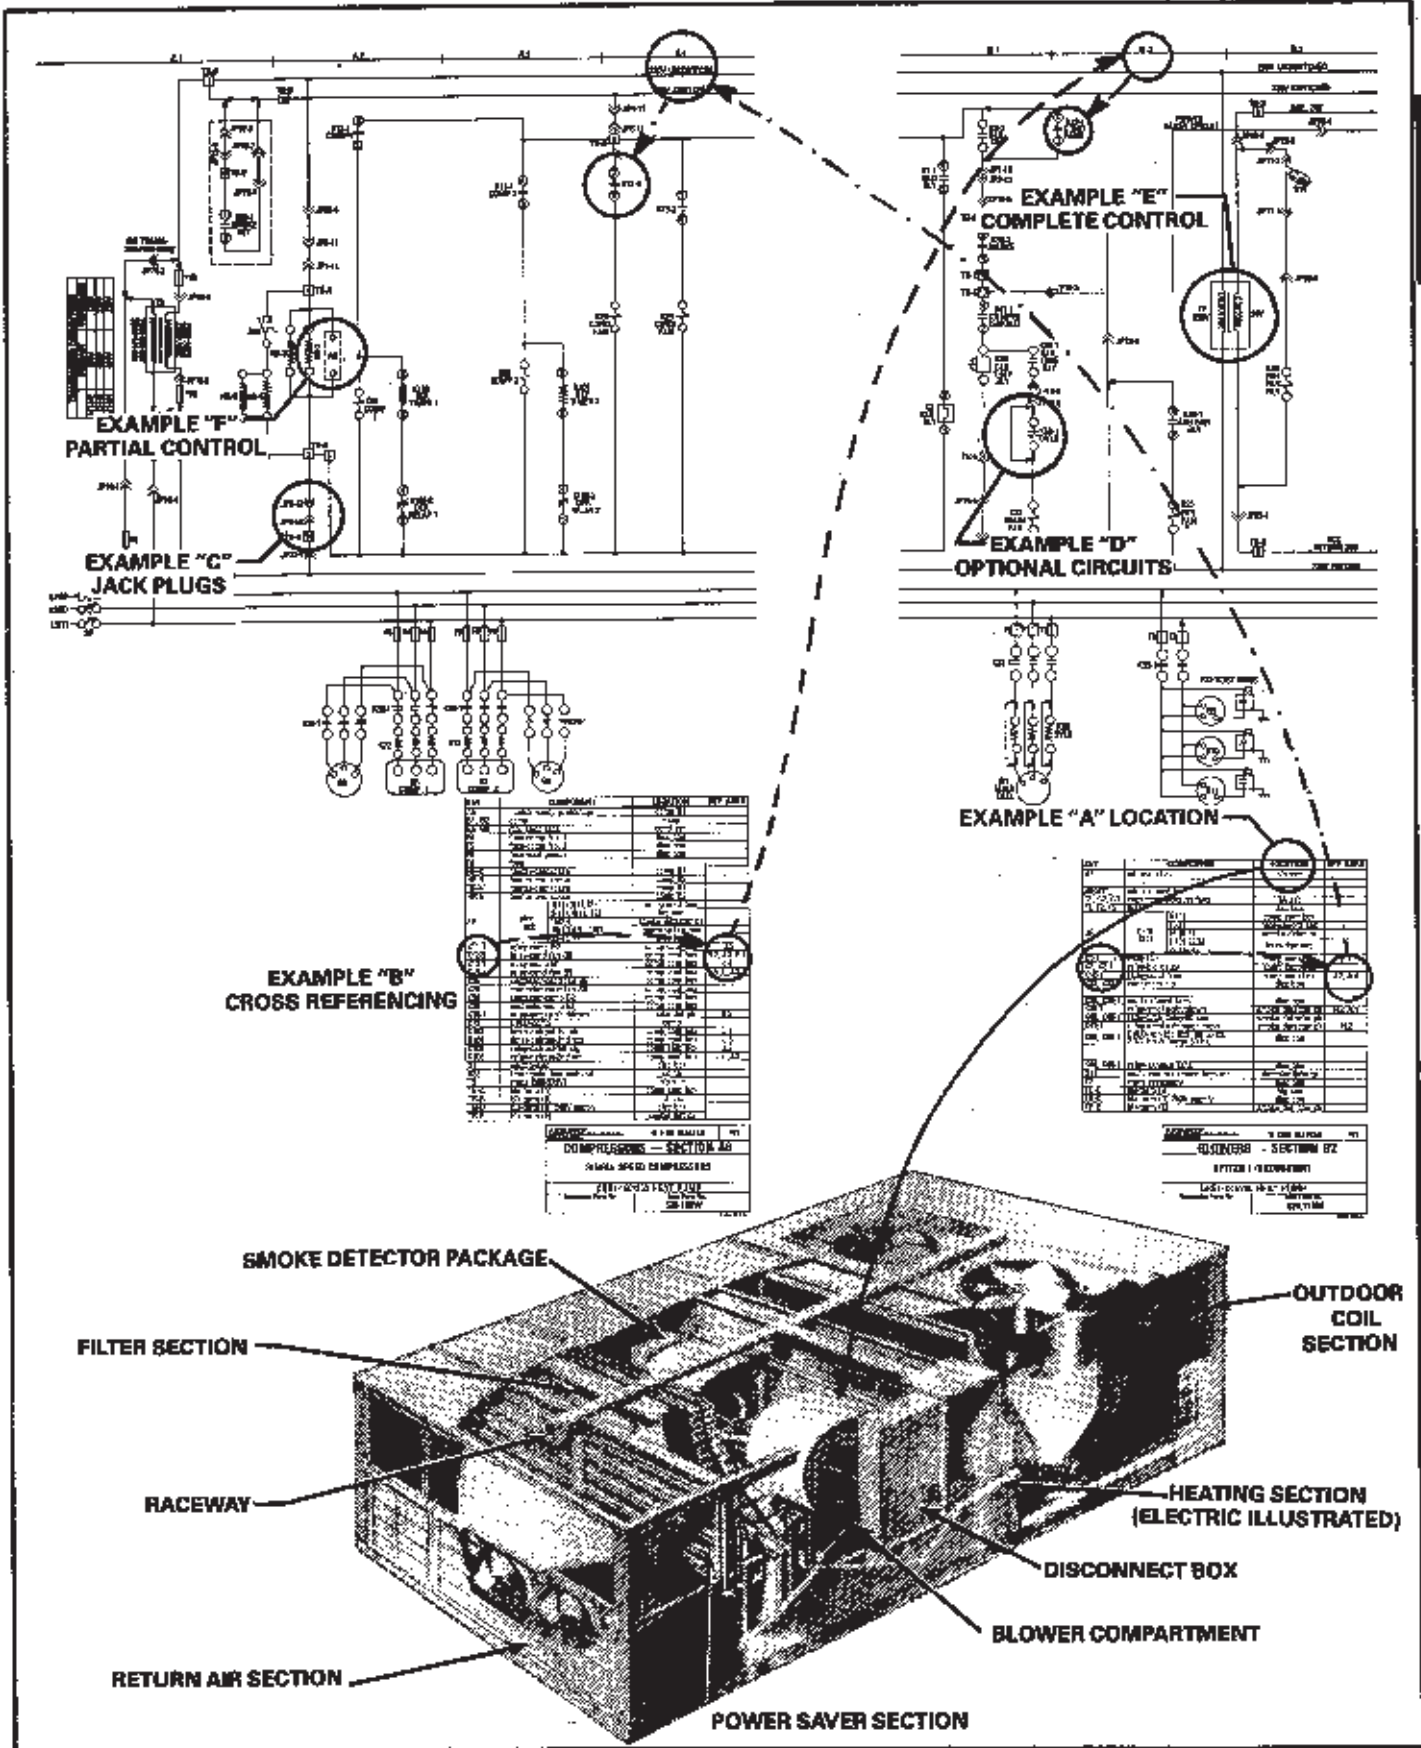

FIGURE 5
- Location of component. See Example A in Figure 5.
- Cross reference to other diagram sections. See Example B in Figure 5.
- 5 - Jacks and plugs are shown in the schematic circuit by both jack-plug number and terminal number. In Example C of Figure 5, JP3-12 indicates jack-plug number 3 and terminal number 12.
- 6 - Optional circuits are shown with arrow connections. See Example D of Figure 5.